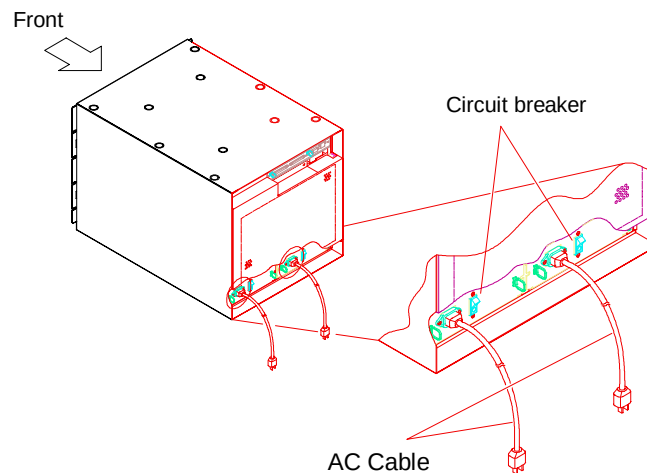
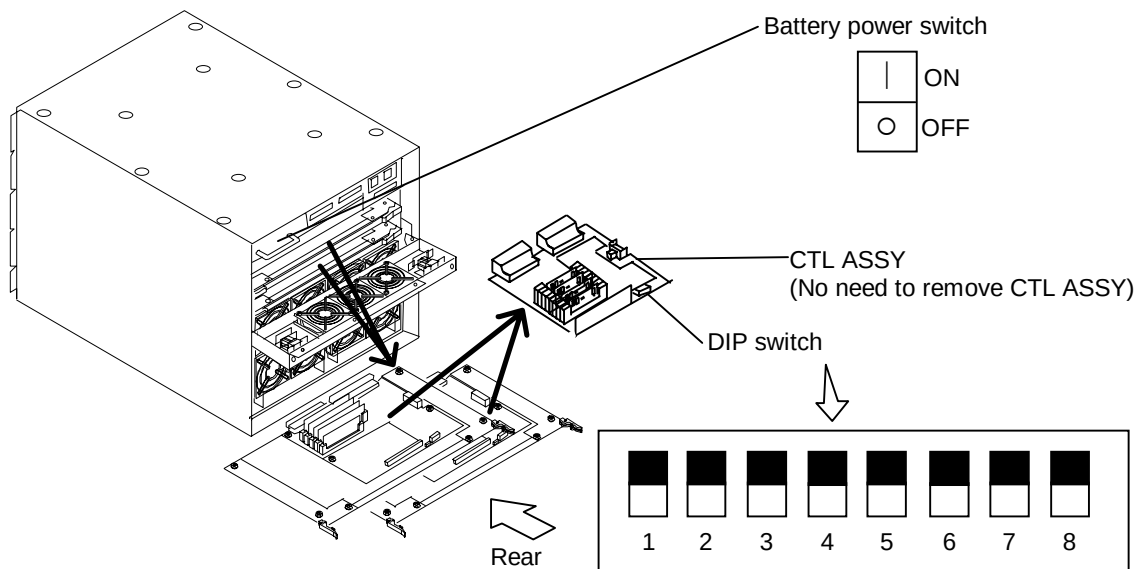
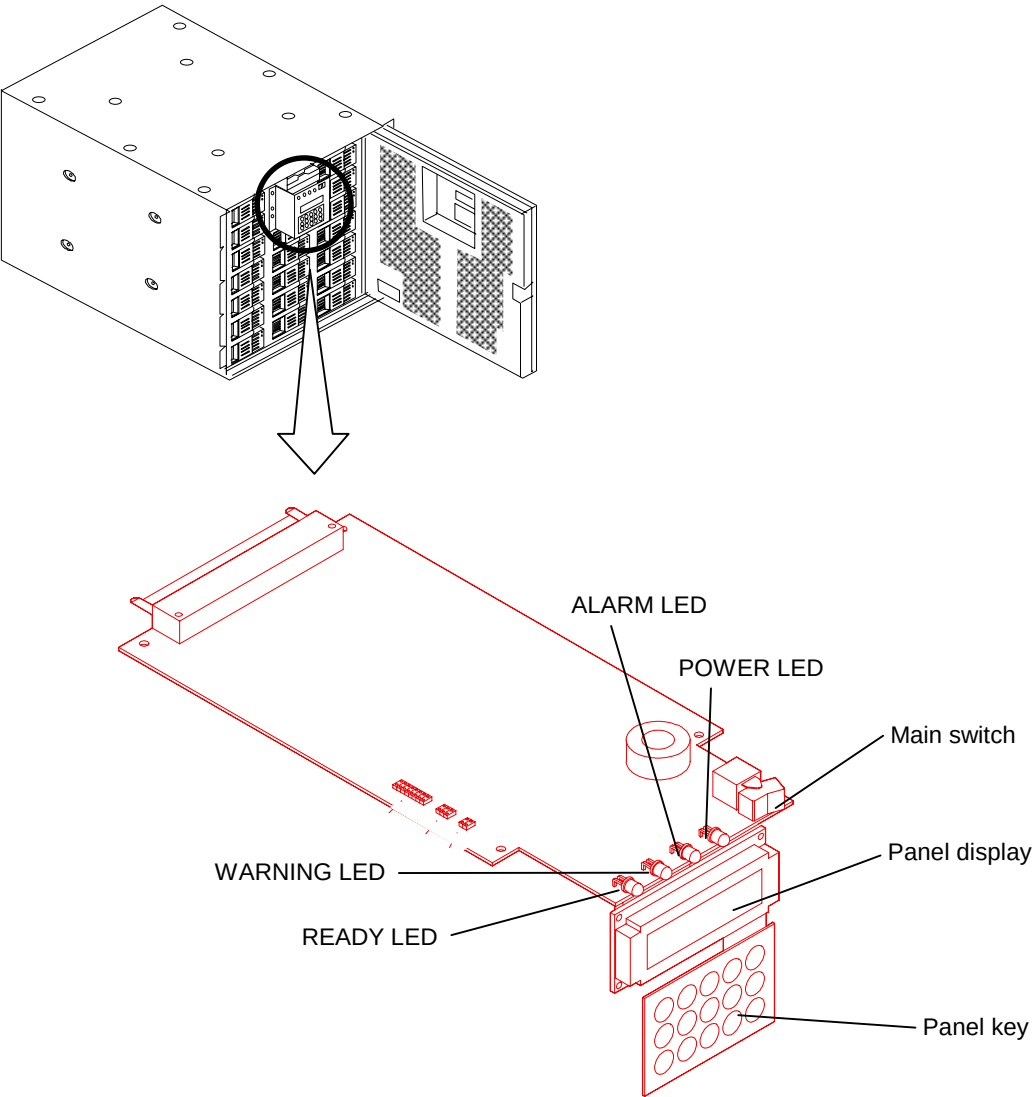

Figure 3.3.1 AC Cable Connection
Figure 3.3.2 Inside Construction of the Subsystem
Figure 3.3.3 Panel
- (1) Verify that the breaker (switch at the rear side) is set to "O" (Off). Then, attach AC cable. (See Figure 3.3.1.)
- (2) Turn on AC power.
- (3) Turn "On" the power switch of the battery (at the rear side of the unit). Then turn "On" the breaker (1). (See Figure 3.3.2.)
- (4) Verify that all the DIP switches are set to "Off" (upper position). Note, no need to remove CTL ASSY.
- (5) Close front panel and turn "On" the main switch. (See Figure 3.3.3.)
- (6) Make sure that the subsystem becomes ready a few minutes later.